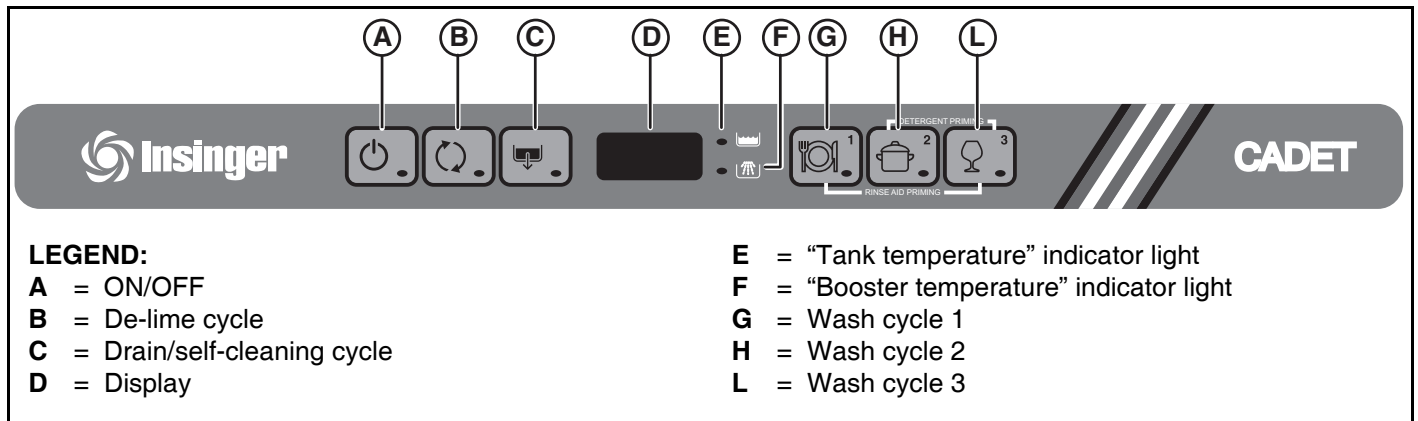

Figure 14
The indicator light of the ON/OFF button “A” (Figure 14) comes on, indicating that the dishwasher is powered and that water is being introduced and heated.
To display the boiler temperature during heating of the tank, open the door and press “G” button (Figure 14).
For lightly soiled dishes or glasses: press “G” button (Figure 14) (see table of times).
For normally dirty dishes: press “H” button (Figure 14) (see table of times).
- Select the drain cycle by pressing "B" button (Figure 14).
- Switch off the dishwasher by pressing "A" button (Figure 14).
Close the door and select the drain cycle by pressing the "C" button (Figure 14).
Switch off the dishwasher by pressing "A" button (Figure 14)
Press on/off "A" button (Figure 14).
Close the door and start the cycle by pressing "B" button (Figure 14).